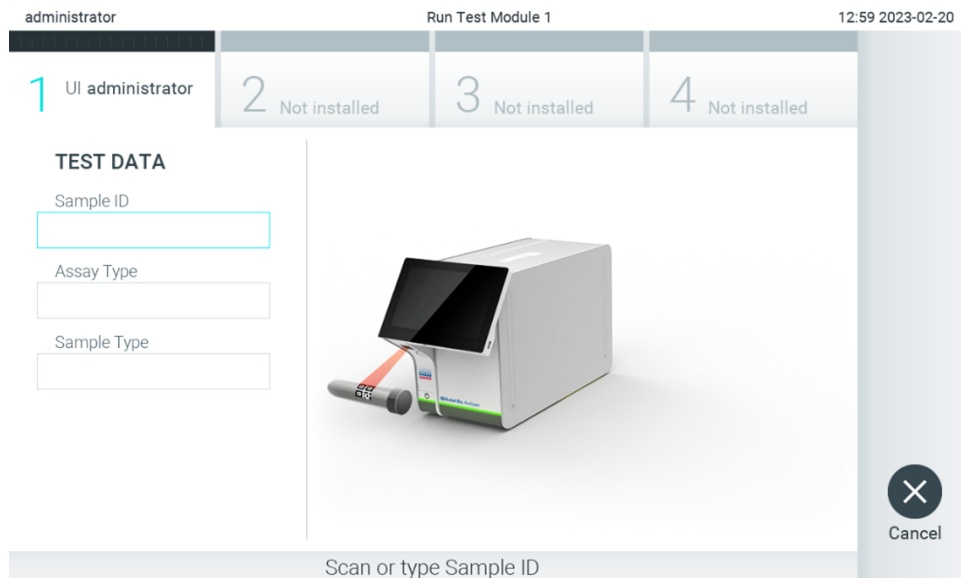

Figure 85. Scanning the sample ID bar code.
2. When prompted, scan the sample ID bar code using the bar code reader that is integrated into the Operational Module (Figure 85).